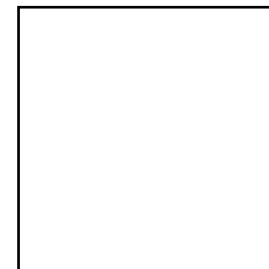

Figure 1: Detector Overview
Insert the battery in the compartment located under the detector. You can insert an optional screw to secure the compartment door. Align the terminals on the end of the (alkaline) battery to those of the detector (Figure 1 on reverse). When the detector first makes contact with the battery, the LED will flicker and the horn will sound for one second. This means that the battery is properly connected. Close the cover and hold down the test button for five seconds. The horn will emit a loud pulsating sound to indicate that the unit is working.
- Open the cover and remove any accumulated dust at least once a year. This includes the detector's sensing chamber as shown in Figure 1 on reverse.